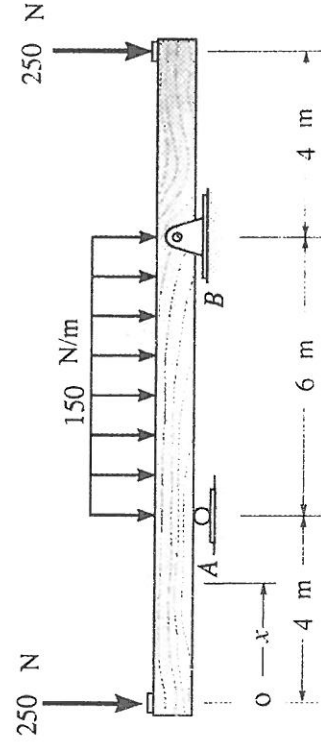

Fig. 4
4. A beam having rectangular cross section is subjected to load of 250 N at both ends and a distributed load of 150 N/m in the middle between two supports as shown in Fig. 4. The cross sectional of the beam has a height of $h = 0.2 \text{ m}$ and a width of $b = 0.15 \text{ m}$.